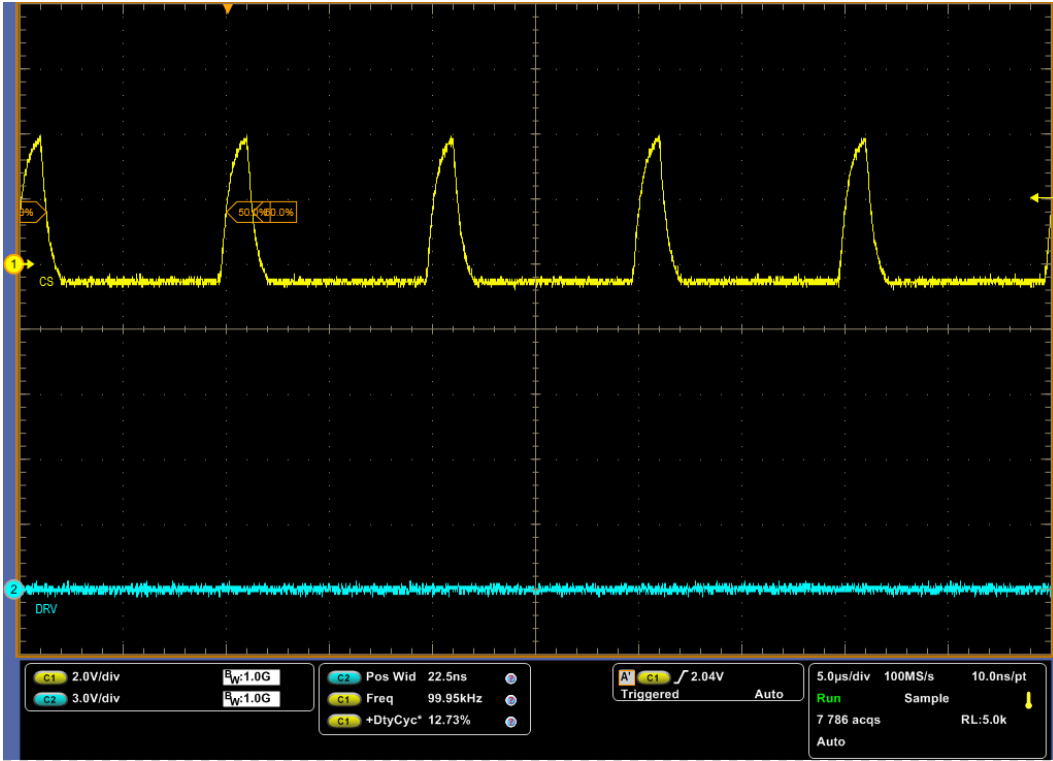

Figure 3: $V_{CC} = 12\text{ V}$, $f = 100\text{ kHz}$, $DC = 13\%$, $V_{LOW} = -1\text{ V}$, $V_{HIGH} = 4\text{ V}$
6. Check that $I_{CC} = \sim 1.6 \text{ mA}$, waveforms look like in figure 3 (no DRV pulses)